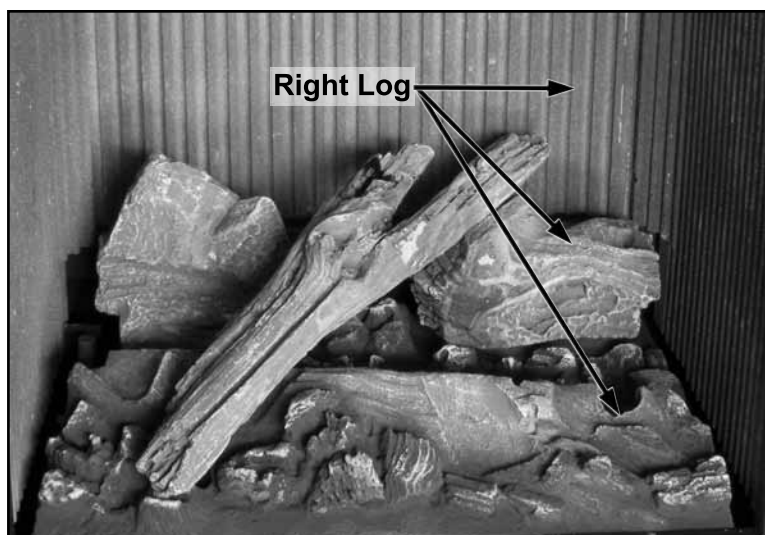

Figure 39: Log Placement of Right Log.
4. Place the bottom of the Right Log in the ledge at the front right of the burner and rest the top of the log against the rear panel as shown in Figure 39 and 40.